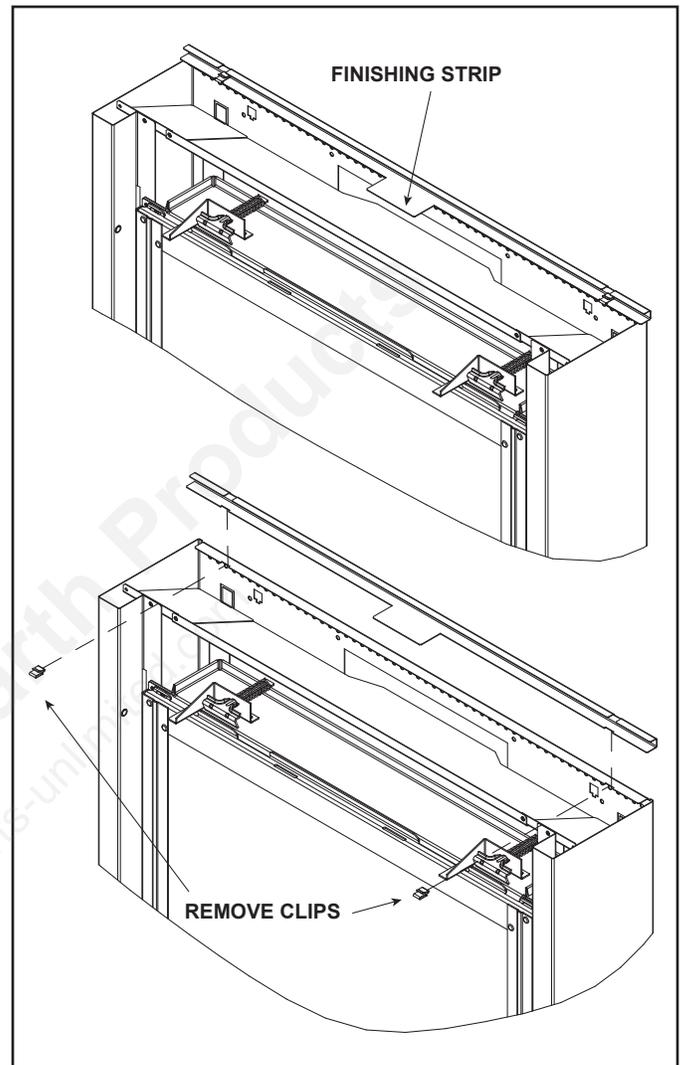

Figure 10.2 Remove Finishing Strip After Installation of Finishing Material
- Remove and discard finishing strip before installing decorative front. See Figure 10.2.
- Use finishing strip to achieve required clearance. See Figure 10.2 and 10.3.